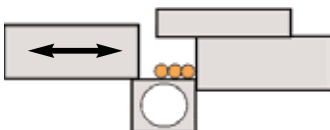

Figure 1a
- **Prevents Side Splicing** – One of the most common causes of poor splices and field failure. When operators place the wires flat on the tip (as shown in Figure 1a), only the tangent point of each cable can be welded together.